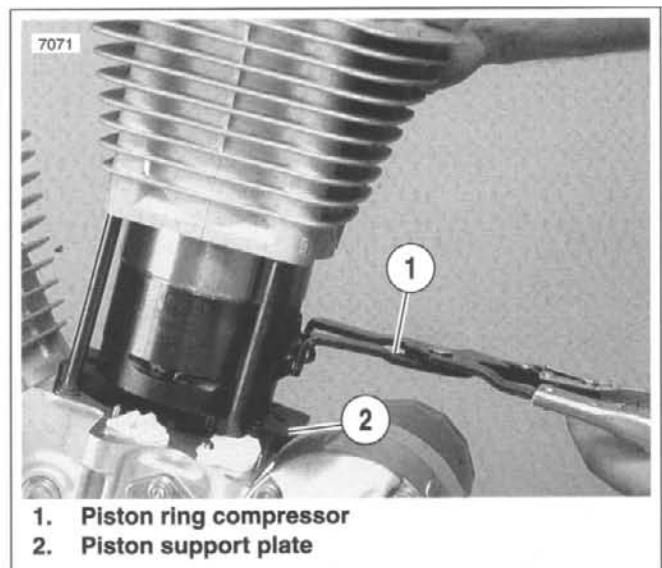

Figure 3-44. Compressing Piston Rings
9. See Figure 3-44. Compress the piston rings using PISTON RING COMPRESSOR (Part No. HD-96333-51C).